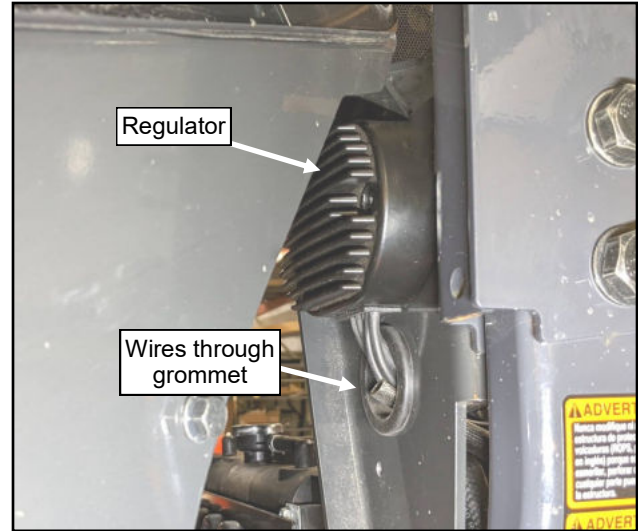
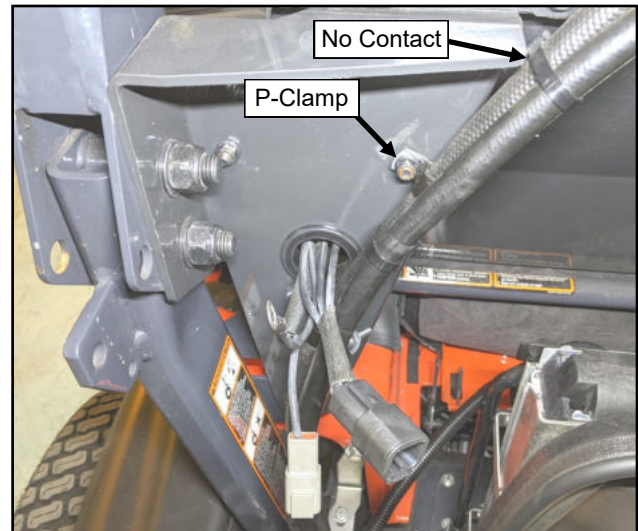
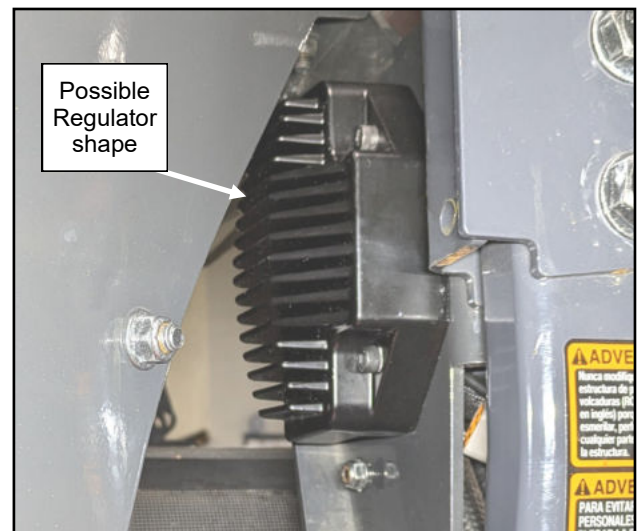

Fig. 6.4a (Secure Regulator to ROPS Bracket)
Fig. 6.4b (Secure Regulator to ROPS Bracket)
Fig. 6.4c (Possible Alternate Regulator version)
- 6.4 See figs. 6.4a and 6.4b. Pass the regulator wiring through the grommet and install the regulator to the front of the left ROPS bracket. With one of the regulator mounting bolts and nuts, secure the A/C hose with a p-clamp as shown in figure 6.4b. Twist clamp and adjust hose position so that hose does not contact sharp edges of ROPS bracket.
Note: The supplied regulator might look like the version shown in fig. 6.4c. Pass the regulator wiring through the grommet and install the regulator to the front of the left ROPS bracket. With a button head bolt and nut, secure the A/C hose with a p-clamp as shown in figure 6.4b. Twist clamp and adjust hose position so that hose does not contact sharp edges of ROPS bracket.
7.1 See fig. 7.1. Connect the dynamo and regulator power wiring harnesses to the regulator. Further down the ROPS bracket than in fig. 6.4b on the previous page, secure both the regulator and power harness ground wire ring terminals together between another p-clamp on the A/C hose and the ROPS bracket. Twist clamp and adjust hose position so that hose does not contact sharp edges of ROPS bracket.